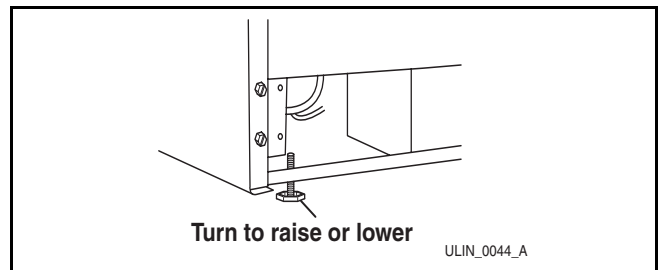

Figure 13. Adjustable Foot
2. If the unit is not level, adjust the feet on the corners of the unit as necessary (**Figure 13**).